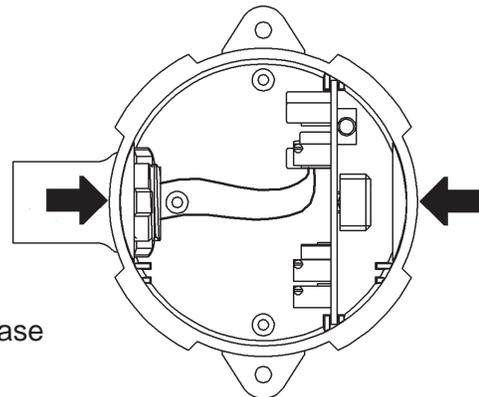

Figure 6:
- Gently squeeze case as shown in Figure 6.